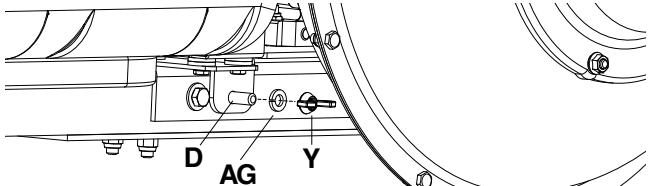

FIGURE 19B
- Secure the rear 3/8" x 5-1/4" bolt (D) with a 47/64" lock washer (AG) and 3/8" wing nut (Y). Tighten hardware. See figure 19B.